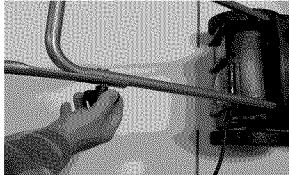

Figure 4 - Tighten Handle Knobs
4. Tighten handle knobs (see Figure 4).
1. Loosen and remove the handle knobs, connector bolts, and star-washer (see Figure 4).
5. Place star-washer onto connector bolt and thread handle knobs on loosely (see Figure 4).